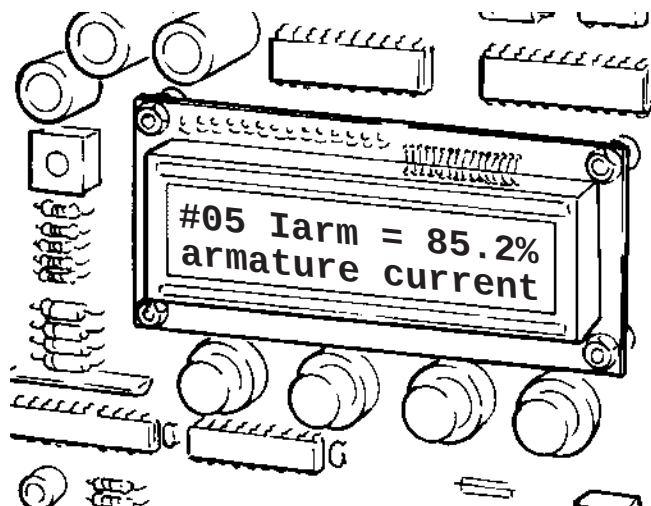

Fig.13
With drive blocked because of alarm intervention, a CONTEMPORARY depression of the two push-buttons INC and DEC on the keyboard (see fig. 13) has the same effect of closing the RESET contact.
The drive is equipped with a two lines by 16 character LCD display, and with 4 keys to preset or display the system characteristic parameters or to show the alarm messages. The first 3 characters, in the upper left corner, refer to the parameter or alarm code (see fig. 13). The parameters are sequentially numbered from #00 to #90 (**#89 up to vers. V1.19 and #87 up to vers. V1.17**) and their list (with the corresponding meaning) is described in the following. Particularly:
- RESET FUNCTION: With drive blocked because of alarm tripping, CONTEMPORARY pressing the two push-buttons INC and DEC on the keyboard (see fig. 13) has the same effect of closing the RESET contact at terminal K1/27.